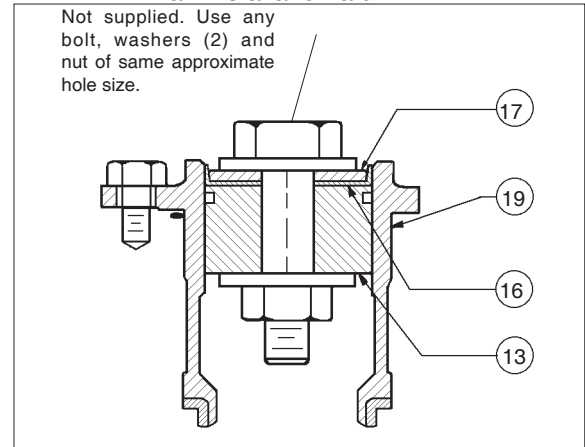

Figure 4: Temporary Assembly Parts
1. When replacing the optional wiper seal (16), the replacement wiper seal (16) is "pre-formed". It may, however, require reforming. Under normal circumstances, this step may not be required. If needed, reform the wiper seal (16) by pressing the temporary assembly parts into the cage (19) backwards as shown in Figure 4. The wiper seal (16) is best left in this position overnight (minimum of two (2) hours) prior to reassembly.
2. After forming the wiper seal, remove parts (13, 16, 17) from cage (19) and disassemble the temporary assembly of Step 1. above.